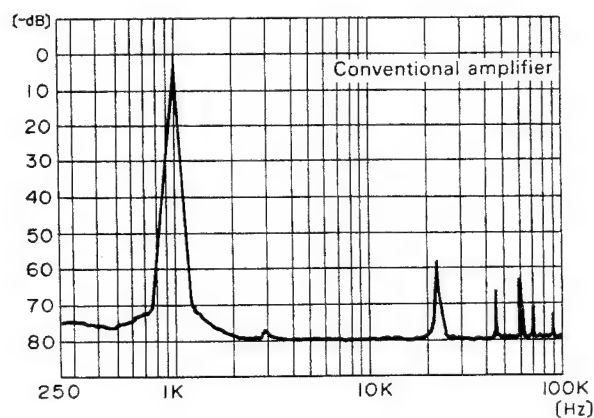
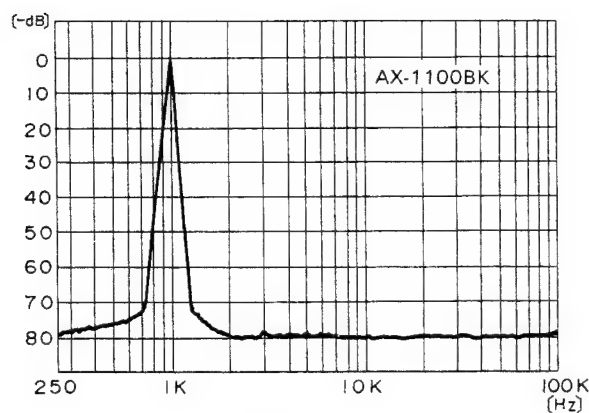

Fig. 4
Fig. 5
1. Fig. 5 shows the amplifier outputs measured when a 1 kHz signal is reproduced by a CD player. As shown in Fig. 4, noise is present in the spectrum of a conventional amplifier, other than the required signal.